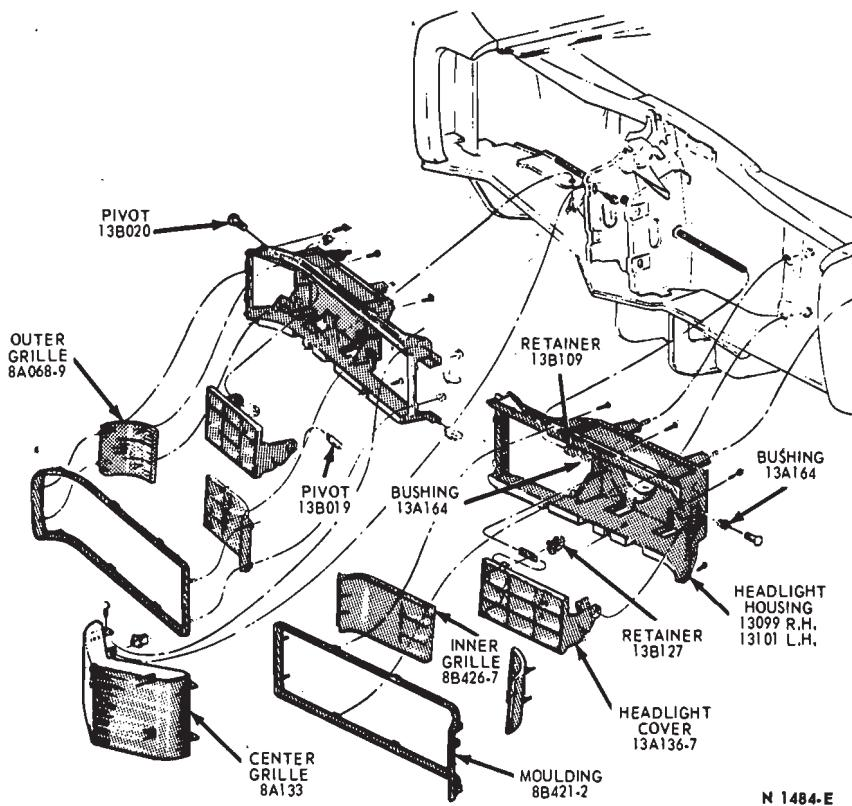

FIG. 2—Radiator Grille—Ford High Series
2. Remove the screws and retaining nuts attaching the grille moulding to the headlight housing and remove the moulding (Fig. 2).